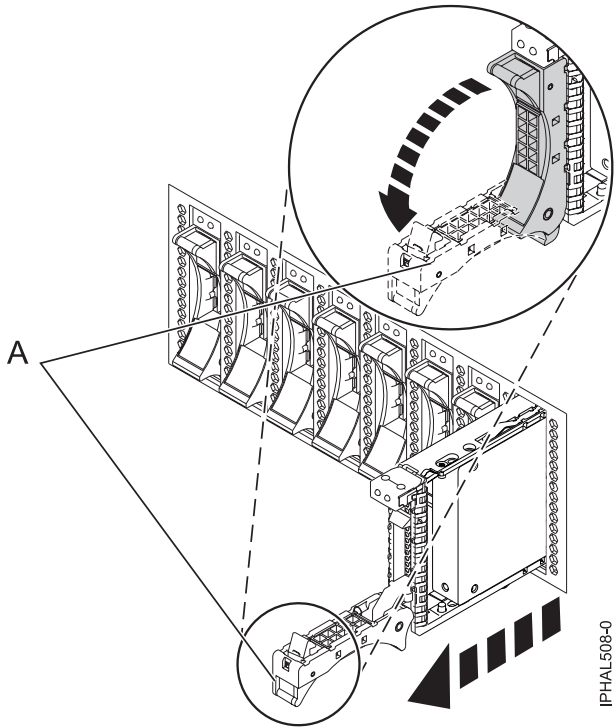

Figure 6. Removing the disk drive from the backplane
- 1) Unlock the disk drive handle (A) and pull it toward you to unseat the disk drive.
- 2) Place one hand under the disk drive and carefully pull the drive out of the system as shown in Figure 6 on page 8.